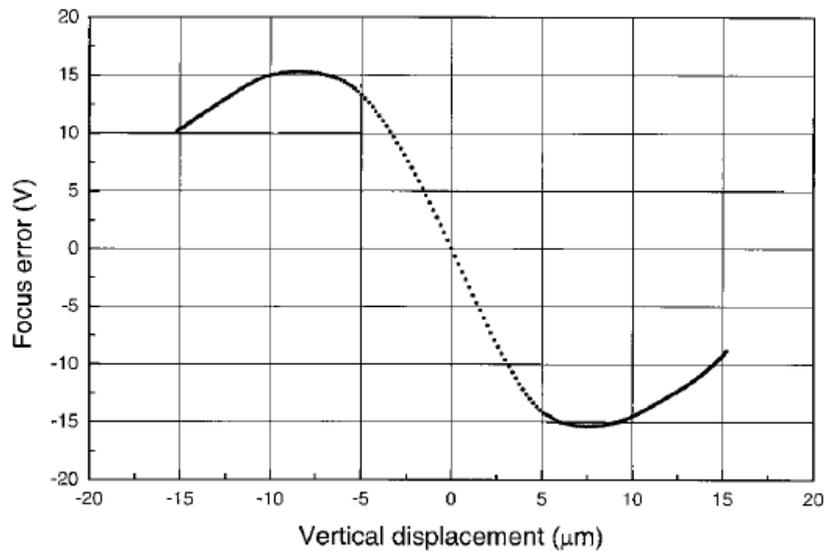

Figure 2 – Characteristic focus-error curve of a pickup [1].
3. Use approximately $f = 3$ mm objective lens and acquire the focus-error-curve (Fig. 2)
4. The depth of focus (length of linear part of the focus-error-curve) of the pickup is limited to approximately $6 \mu\text{m}$ in Fig. 2. Try to increase the depth of focus to 1 mm.